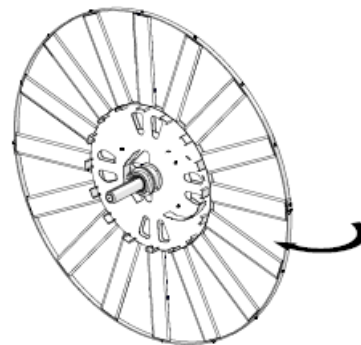

Fig. 5: Turning the Reel
6. The remaining work steps must be carried out from the other side (see Fig. 5).
<p>6. Mount the complete spring loaded hose reel.</p> <p>® Determine the correct installation position of the spring cassette (see notes on page 9).</p> <p>® Mount the spring cassette onto the reel as in step 3 in reverse order (see instructions on page 8) (see MV6100-0006).</p> <p>® Cut the right length of double sealing gasket material and apply adhesive (for example: with Loctite 406).</p> <p>® Mount the spring housing (replace the double sealing gaskets).</p> <p>® Load the spring according to the type plate (as described in the associated instructions).</p>	 <p>Fig. 5: Mounting the Spring Cassette</p>